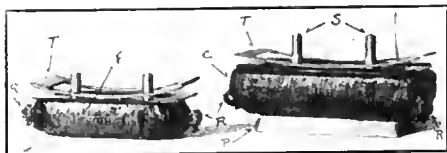

FIG. 27. FIELD COILS AND POLES ASSEMBLED.
A. The general construction of field coils is shown by Fig. 27. The main pole piece "P" is so shaped that when the main field coil "C" is assembled, as shown in the illustration, it is held firmly in place when the stud bolts "S" are inserted in holes drilled to template in the frame and tightened down by nuts and lock-washers. The inter-pole field "F" is constructed and held in the same manner.